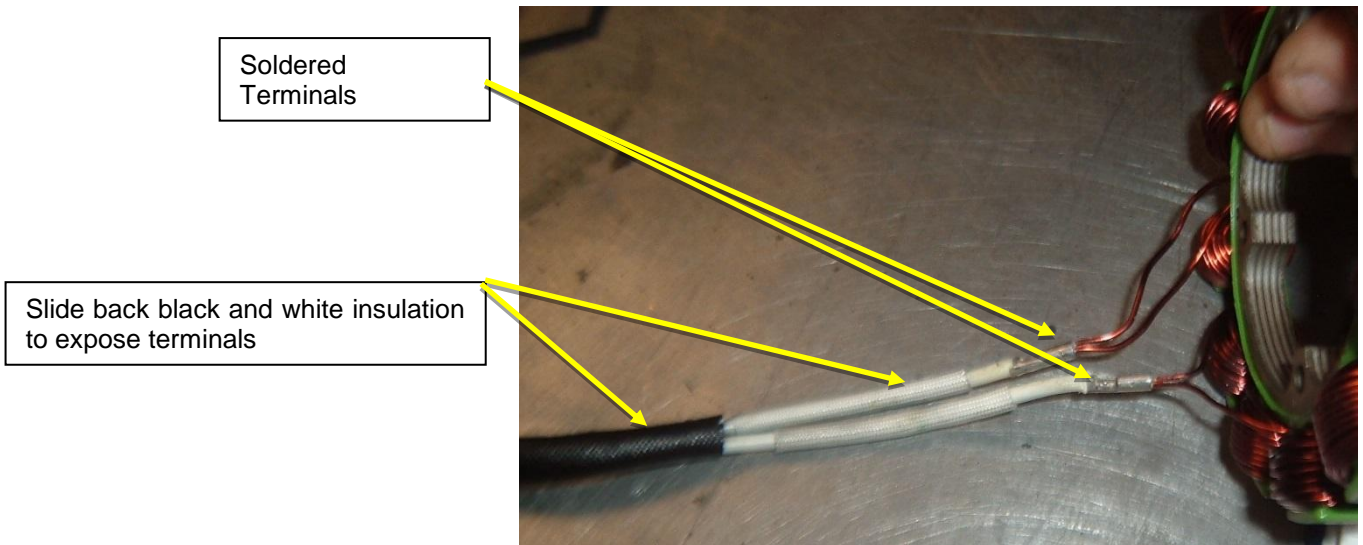

Figure 3 – Terminal exposure
6. Unsolder coil wires from both terminals, as shown in Figure 3. Due to the size of these parts a large soldering iron or a small gas burner is recommended to get enough heat into the connection. Take care not to damage the insulating lacquer on the wires.